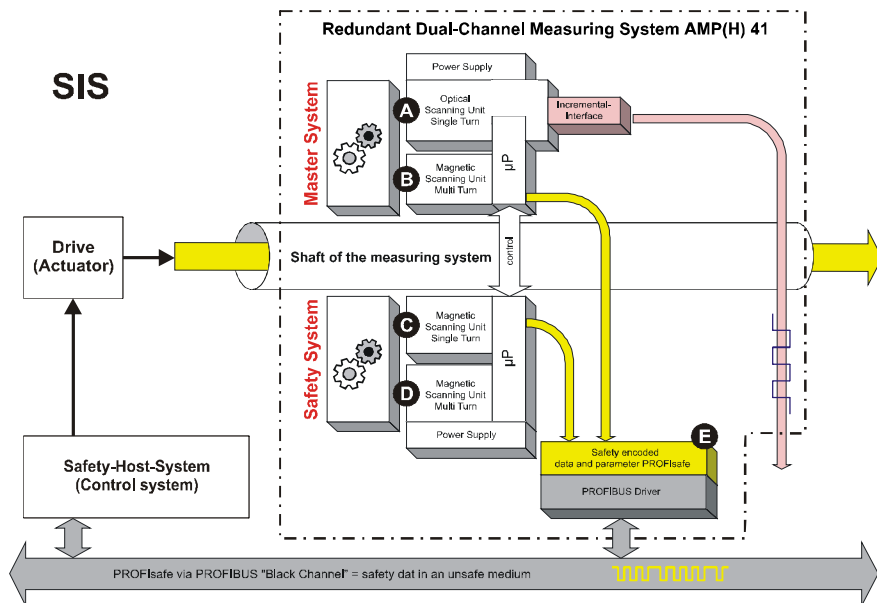

Fig. 1: System diagram
- The measuring system internally compares the positions detected by both channels in two channels, also determines the speed in two channels and transfers the safe data to the PROFIBUS in the PROFIsafe protocol, **see Fig. 1: System diagram "Black Channel" on page 13.**